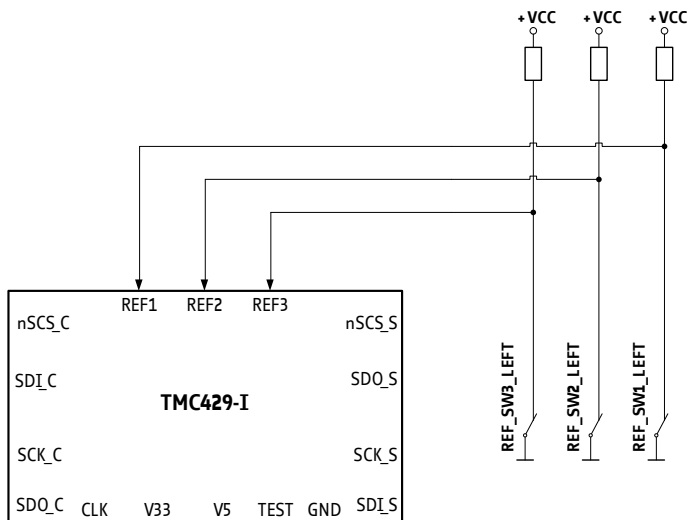

Figure 9.2 Reference switch configuration *left-side-only* for *mot1r*=0 (and *refmux*=0)
- After power-on-reset, the default setting (*refmux*=0 and *mot1r*=0) selects the basic single reference switch configuration as outlined in Figure 9.2.
The TMC429-I offers three reference switch inputs, which can be used *left-side-only* or *two-one-zero* as shown in Figure 9.2 and in Figure 9.3.